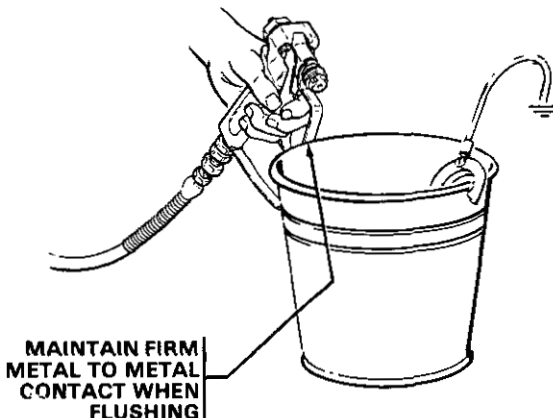

Fig 9
6. Disengage the gun safety latch. Point the spray gun into a metal waste container and with a metal part of the gun firmly touching the metal container, squeeze the gun trigger. See Fig 9. **This procedure helps reduce the risk of static sparking and splashing.** With the gun triggered, turn the ON/OFF switch to ON and slowly turn the pressure adjusting knob clockwise **just until** the sprayer starts. Keep the gun triggered until clean solvent comes from the nozzle. Release the trigger and engage the gun safety latch.